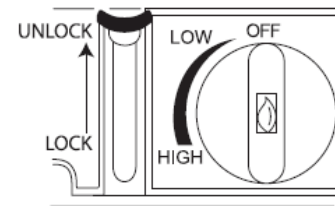

Fig. 1
1. Turn the ignition knob to OFF and set the cartridge lever to UNLOCK. (Fig 1)